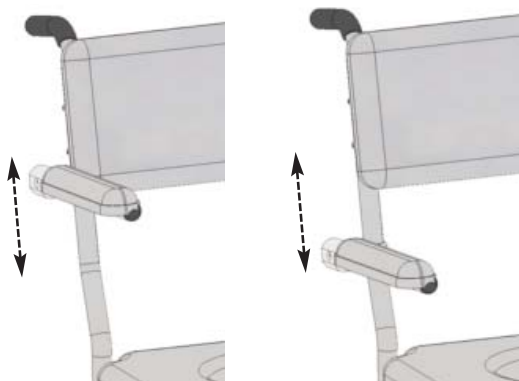
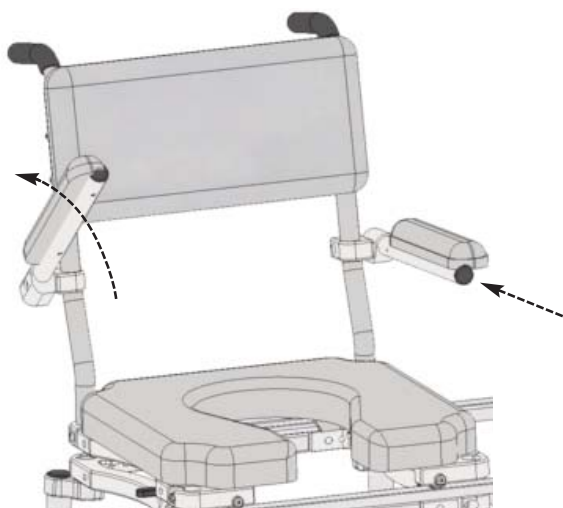

Figure 19
Figure 20
**D Cantilever Arms:** The cantilever arms can be adjusted to the desired height by completing the following steps: Loosen the socket head cap screws on the arm clamps, raise/lower the arms accordingly, then re-tighten the socket head cap screws (Refer to Figure 19). For safety purposes, the cantilever arms lock in the down position. To switch the arms to the up position, simply push the arms toward the back of the chair (releasing the locking mechanism) and lift up (Refer to Figure 20).